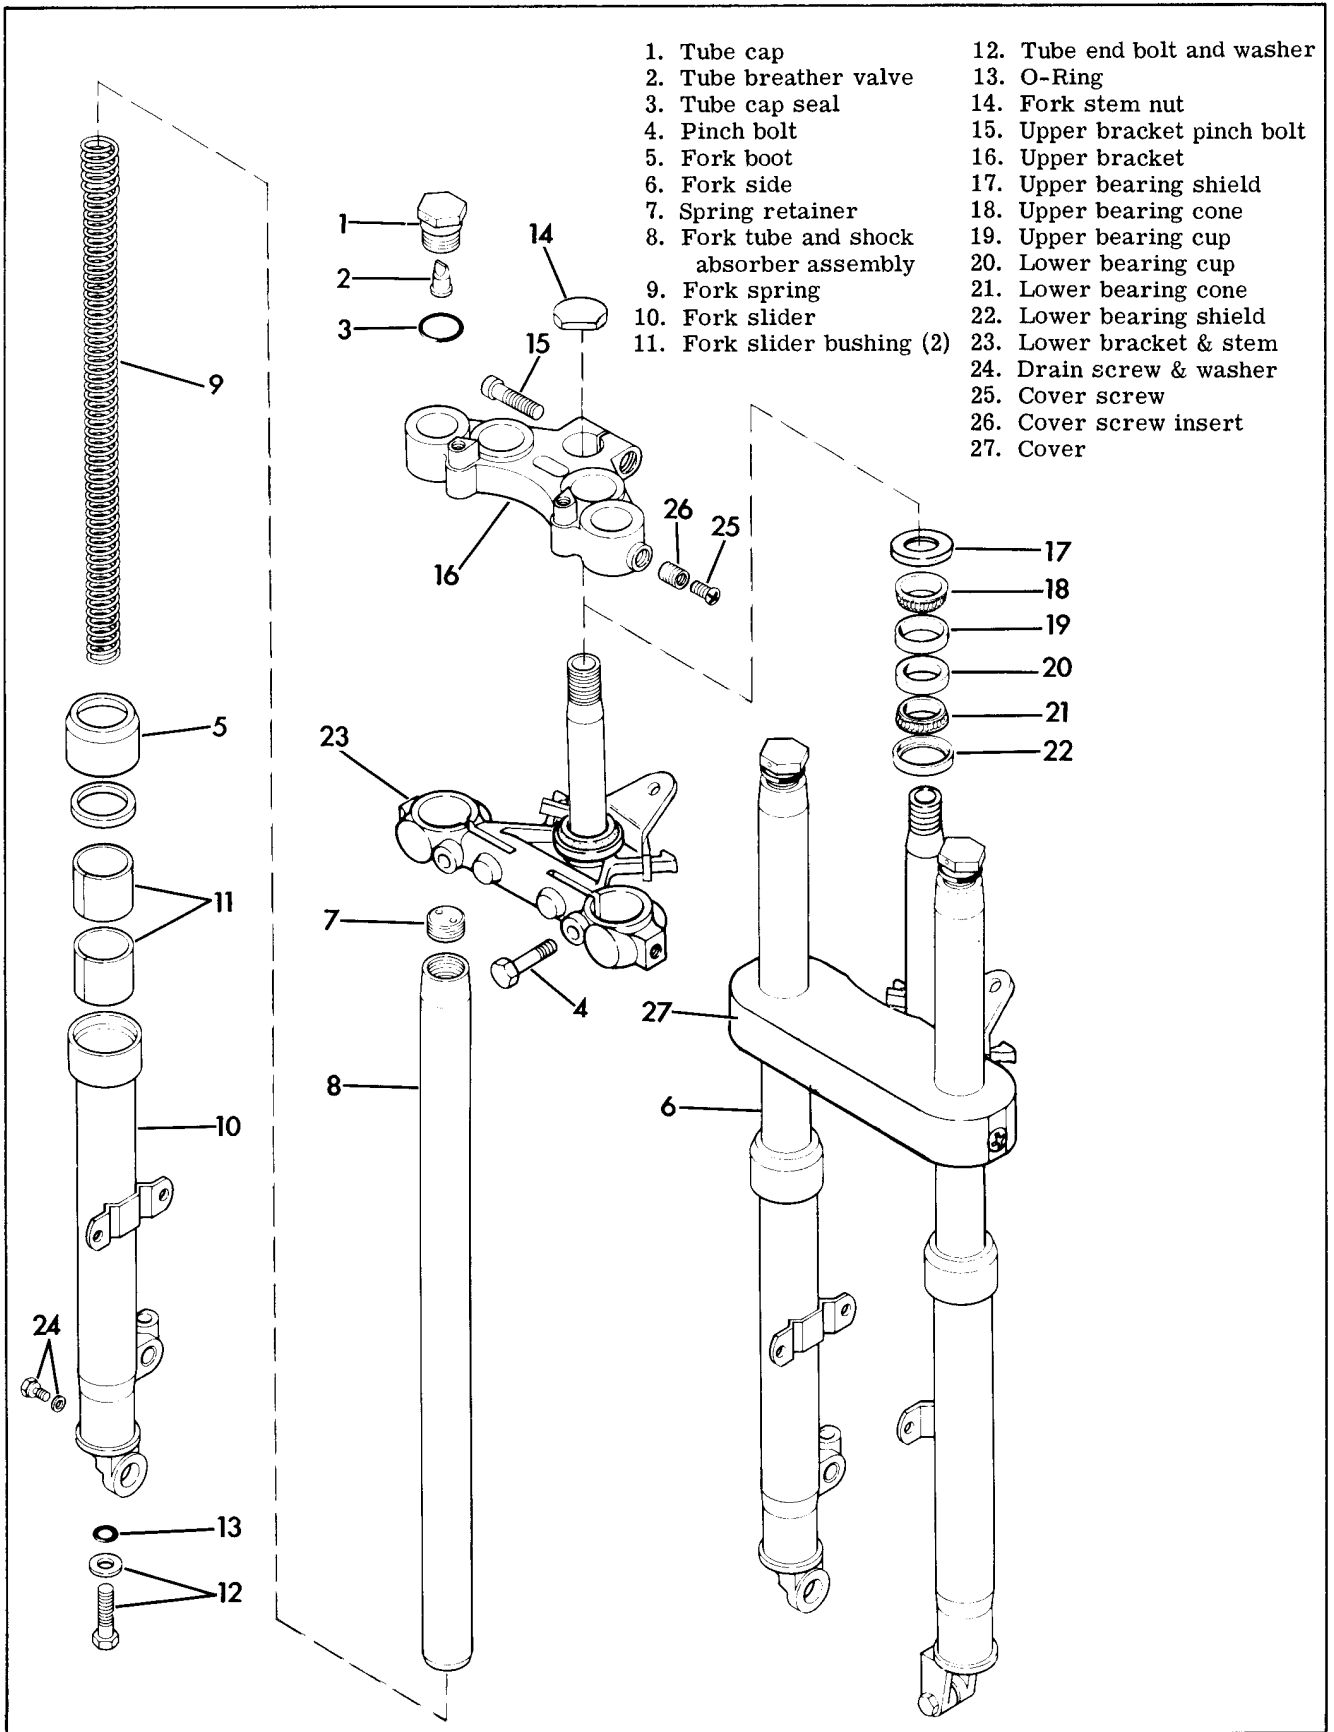

Figure 2-34C. Super Glide Front Fork - Exploded View
To drain fork sides, remove fork tube cap as described in "Disassembling Front Fork". Remove drain plug (24, Figure 2-34C) from lower end of fork slider. Loosen tube end bolt (12, Figure 2-34C) several turns. With a screwdriver move shock absorber up and down to loosen any sediment in bottom of fork slider, so oil will run free from drain.
##### INSPECTION PROCEDURE (Figure 2-34C)
See Figure 2-34C. Examine fork tube (8) for scoring and badly worn sliding surface. Inspect fork slider bushings (11) in fork slider (10) for wear and scoring. Insert tube (8) in fork slider (10), and work up and down. If tube has appreciable play in slider, replace slider bushings. See "Removing Fork Slider Bushings."
#### REPLACING BREATHER VALVE (Figure 2-34C)
##### DISASSEMBLING FRONT FORK (Figure 2-34C)
## REMOVING FORK STEM AND BRACKET ASSEMBLY FROM STEERING HEAD (Figure 2-34C)
To replace bearing races (19 and 20, Figure 2-34C), knock head cup from steering head using a suitable drift. Press new bearing race in new head cup and then press assembly into frame head. If you wish to use old head cups, holes must be drilled in back side of cup so that race can be driven out by using small diameter drift or by some other improvised means.
### ASSEMBLING FRONT FORK (Figure 2-34C)
### INSTALLING STEM AND BRACKET ASSEMBLY, FORK SIDES AND ADJUSTING STEERING BEARINGS (Figure 2-34C)